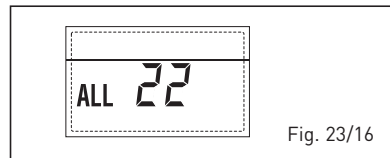

Fig. 23/16
- ANOMALIA GUASTO SONDA MANDATA SECONDA ZONA MISCELATA "ALL 23" (fig. 23/17)